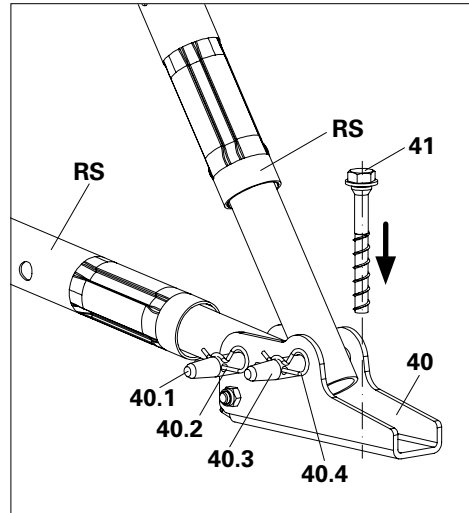

Fig. A5.01
1. Fix the bottom part of the push-pull prop (RS) – here as kicker brace – with bolts (40.1) and cotter pins (40.2) to the back of the base plate (40).
2. Fix the bottom part of another push-pull prop – here as push-pull prop – with bolts (40.3) and cotter pins (40.4) to the base plate (40).
5. Mount the base plate on a flat and sufficiently load-bearing surface area, e.g. using anchor bolts (41). (Fig. A5.01)